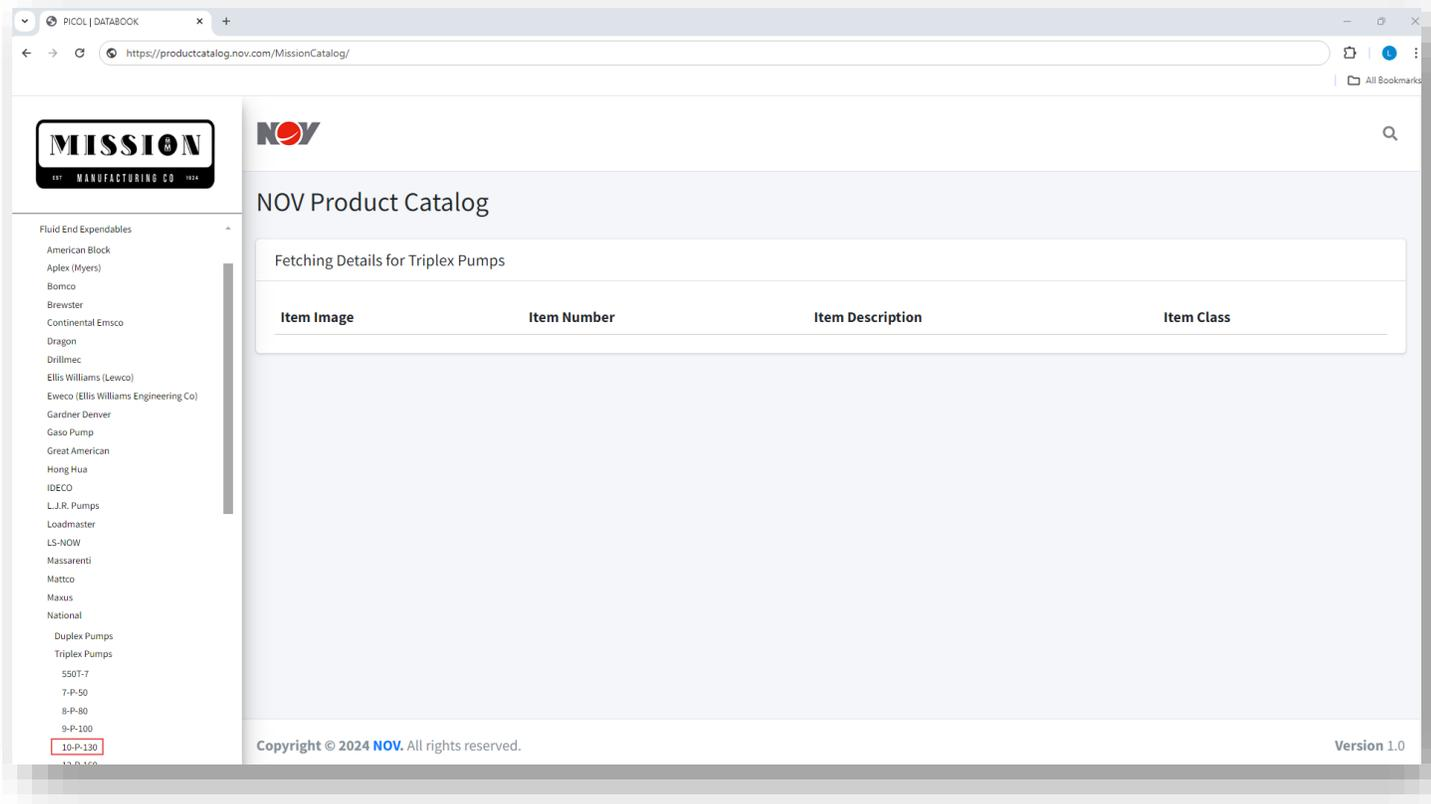

Figure 6a: selecting a leaf category that model resides in
1. Traverse the catalog hierarchy in the left pane as shown in figure 6a below, user can traverse the catalog hierarchy and select a leaf category that you are interested in.